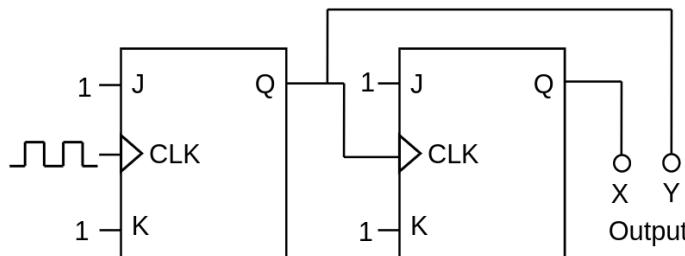

Fig. 5.27
27. The circuit shown in Fig. 5.27 below uses ideal positive edge-triggered synchronous J-K flip flops with outputs X and Y. If the initial state of the output is  $X=0$  and  $Y=0$ , just before the arrival of the first clock pulse, the state of the output just before the arrival of the second clock pulse is